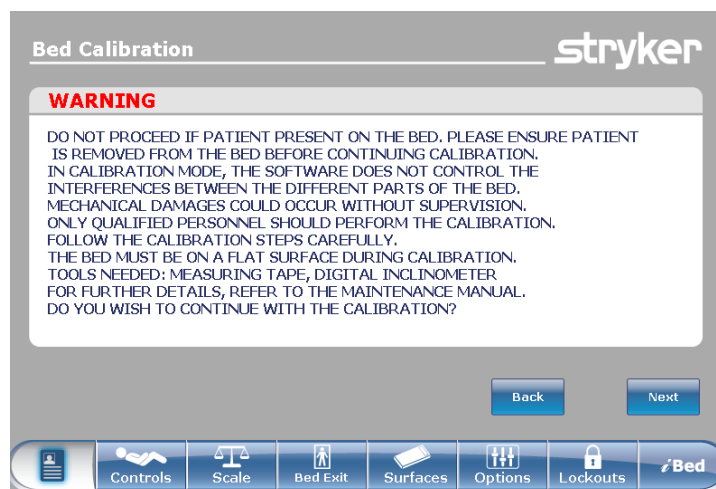

Figure 4: Bed Calibration - WARNING
Refer to Figure 4 for WARNING details.
2. After pressing the Bed Calibration button, Figure 4 will be displayed. Press "Next" to continue with calibration.